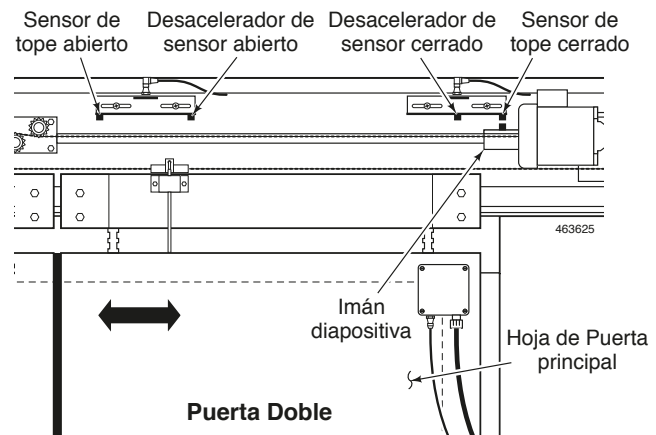

Figure 31
- The Door starts slowing as it passes the Close Decel Sensor. See Figure 31.